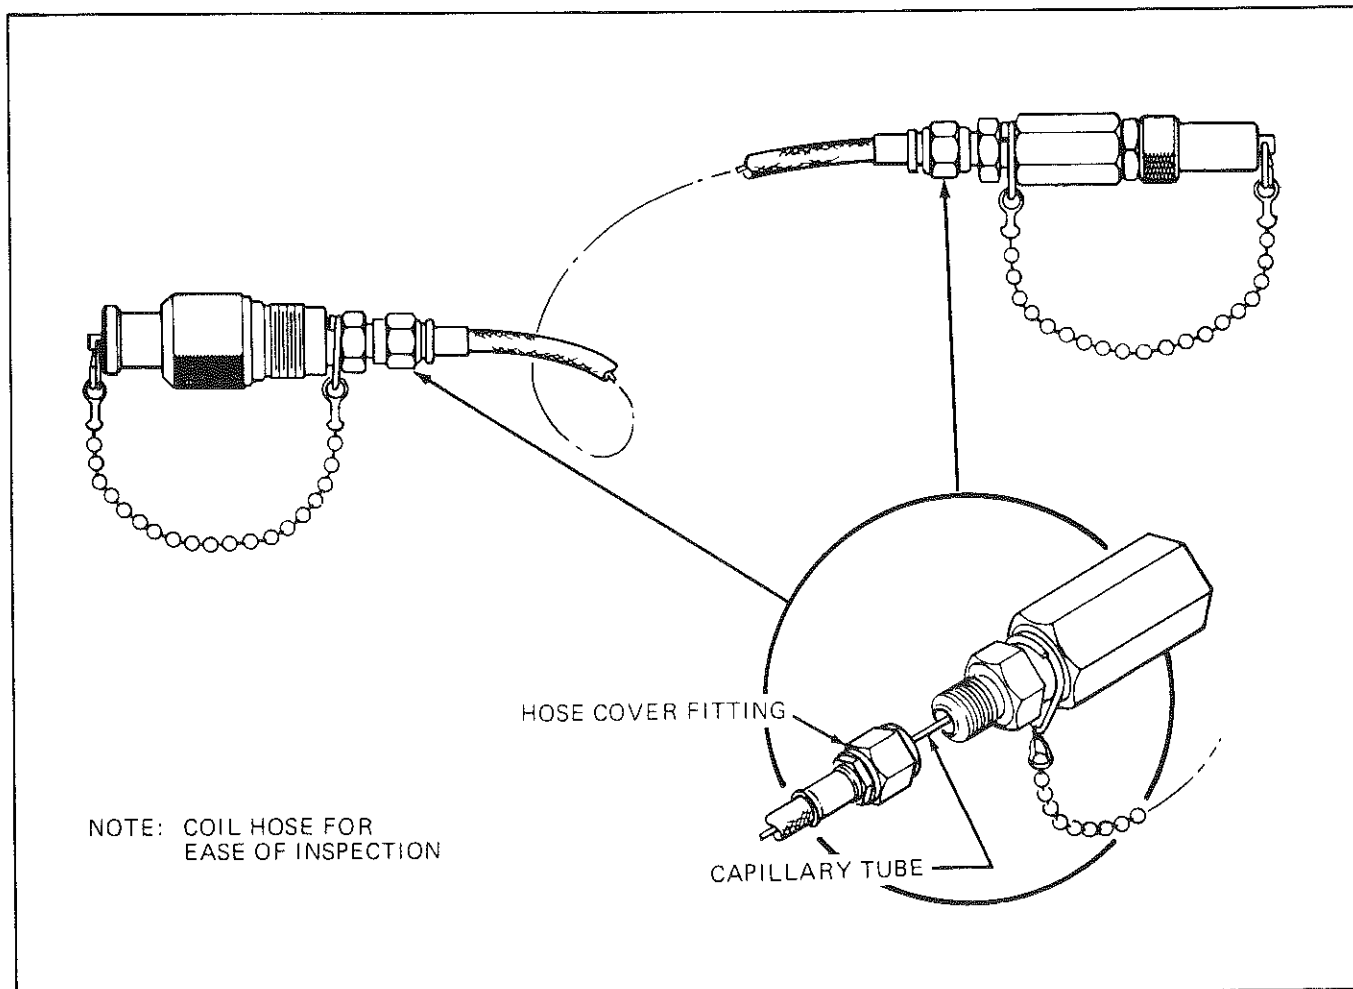

Figure 6-1. Inspection of High-Pressure Hose
2. Loosen cover fitting of hose assembly and inspect brazed joint between capillary tube and end fitting for evidence of damage. Inspect end of hose for kinks. (See figure 6-1.)